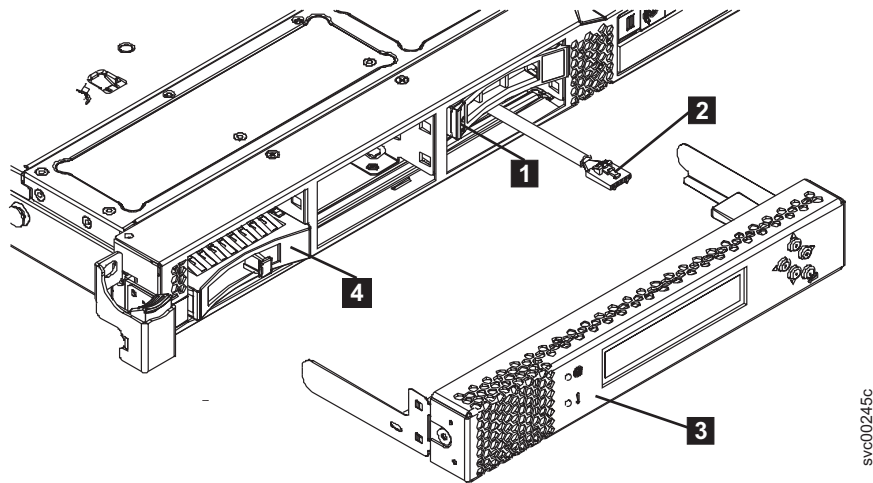

Figure 99. Boot drive location (SAN Volume Controller 2145-CF8 shown)
7. Slide the orange release latch (**1** in Figure 99) gently to the left to unlock the drive handle of the boot drive. For details on the boot drive location, see “IDs for SAN Volume Controller 2145-CG8 or 2145-CF8 disk drives” on page 112.